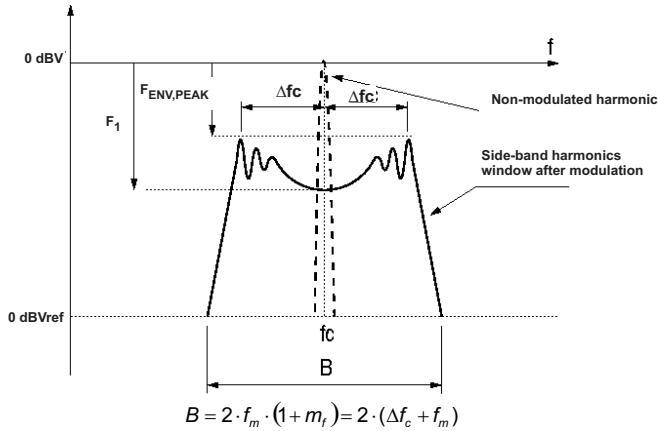
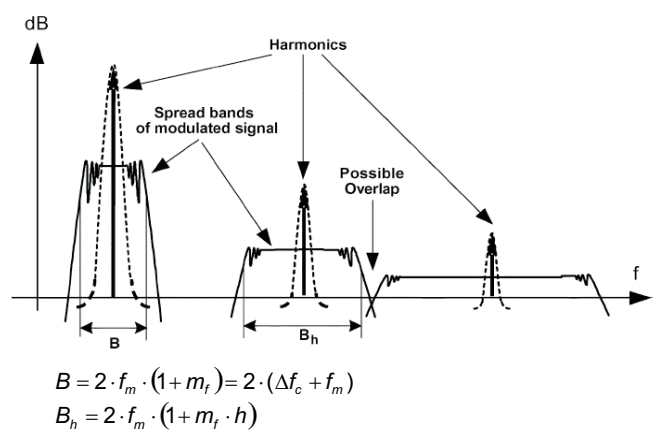

Figure 49. Spectrum of a Frequency Modulated Sin. Wave with Sinusoidal Variation in Time
Figure 50. Spread Bands of Harmonics in Modulated Square Signals ⁽¹⁾
(1) Spectrum illustrations and formulae (Figure 49 and Figure 50) copyright IEEE TRANSACTIONS ON ELECTROMAGNETIC COMPATIBILITY, VOL. 47, NO.3, AUGUST 2005. See REFERENCES section for full citation.